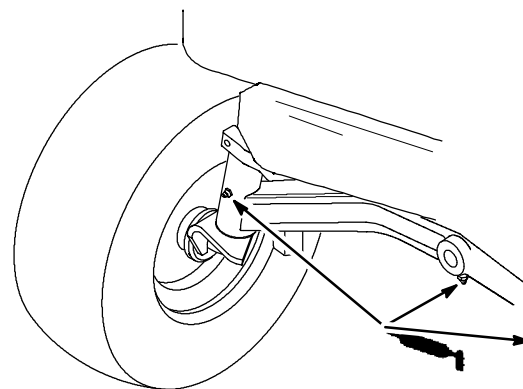

Figure 30
- Lubricate the left-hand and right-hand spindles until grease begins to ooze out of the bearings (Fig. 30).
- Lubricate the front axle pivot (Fig. 30).